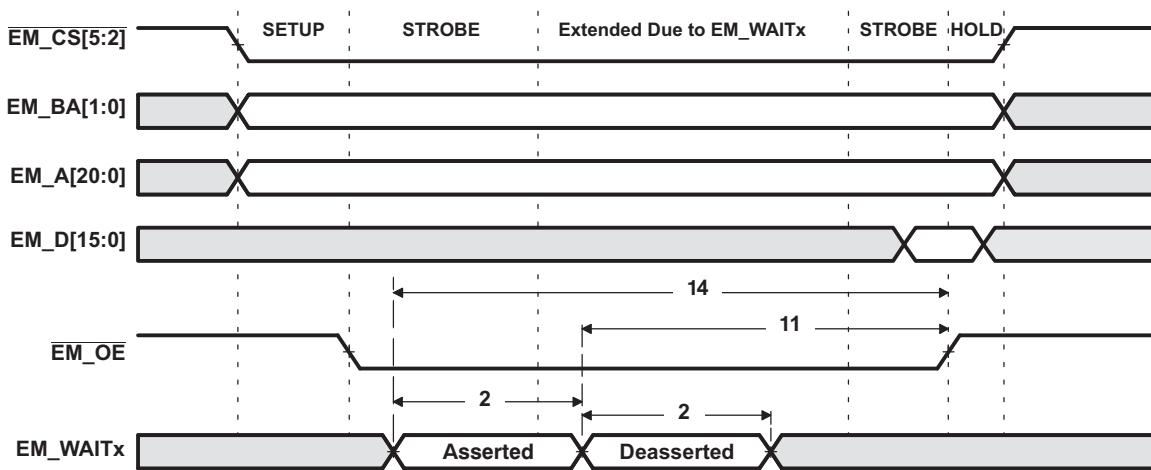
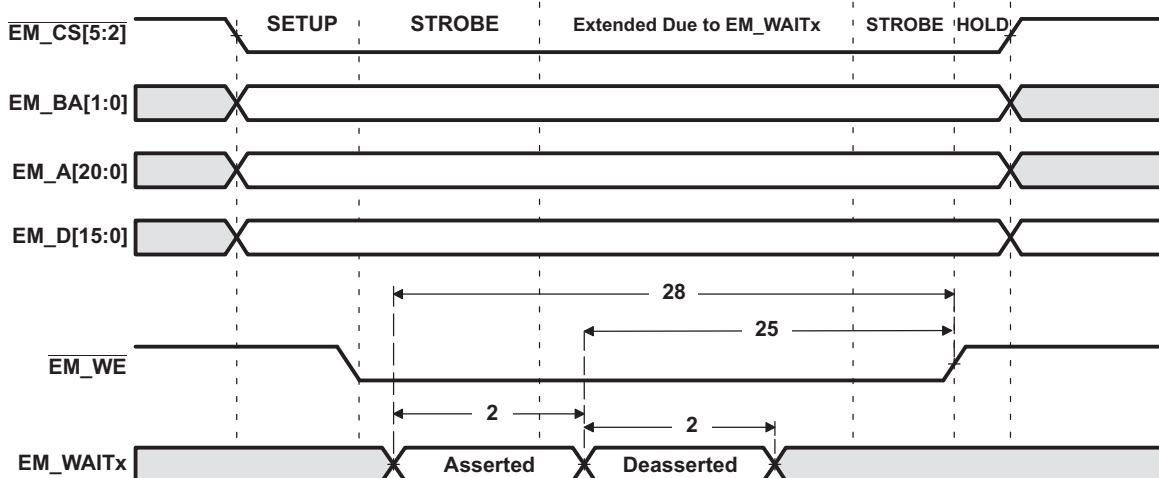

Figure 5-19. EM_WAITx Read Timing Requirements
Figure 5-20. EM_WAITx Write Timing Requirements
Table 5-19. Timing Requirements for EMIF Asynchronous Memory⁽¹⁾⁽²⁾ (see Figure 5-17, Figure 5-19, and Figure 5-20)
(1) Timing parameters are obtained with 10pF loading on the EMIF pins.
(2) E = SYSCLK period in ns. For example, when SYSCLK is set to 100/120 MHz, E = 10/8.33 ns, respectively.
(3) Setup before end of STROBE phase (if no extended wait states are inserted) by which EM_WAITx must be asserted to add extended wait states. Figure 5-19 and Figure 5-20 describe EMIF transactions that include extended wait states inserted during the STROBE phase. However, cycles inserted as part of this extended wait period should not be counted; the 4E requirement is to the start of where the HOLD phase would begin if there were no extended wait cycles.
Table 5-20. Switching Characteristics Over Recommended Operating Conditions for EMIF Asynchronous Memory^{(1)(2) (3) (4)} (see Figure 5-17, Figure 5-19, and Figure 5-20)
(2) TA = Turn around, RS = Read setup, RST = Read strobe, RH = Read hold, WS = Write setup, WST = Write strobe, WH = Write hold, MEWC = Maximum external wait cycles. These parameters are programmed via the Asynchronous Configuration and Asynchronous Wait Cycle Configuration Registers.
(3) E = SYSCLK period in ns. For example, when SYSCLK is set to 100/120 MHz, E = 10/8.33 ns, respectively.
(4) EWC = external wait cycles determined by EM_WAITx input signal. EWC supports the following range of values EWC[256-1]. Note that the maximum wait time before timeout is specified by bit field MEWC in the Asynchronous Wait Cycle Configuration Register.
Table 5-20. Switching Characteristics Over Recommended Operating Conditions for EMIF Asynchronous Memory^{(1)(2) (3) (4)} (see Figure 5-17, Figure 5-19, and Figure 5-20) (continued)